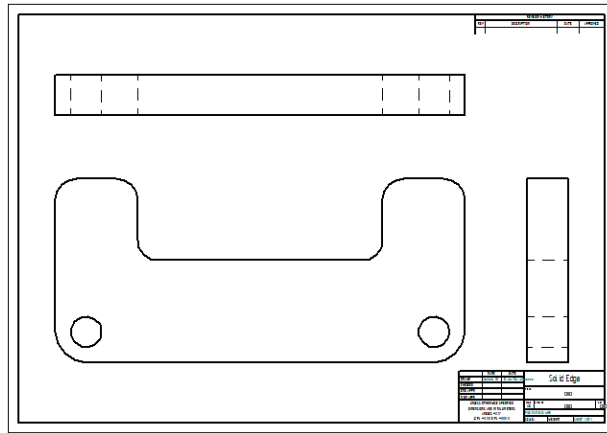

Figure 2-54 Sheet after generating drawing views
6. Enter the file name as *c02tut2.par* in the **File name** edit box. Next, choose the **Save** option from this dialog box; the part file gets saved and the drawing views are generated in the drawing area, as shown in Figure 2-54.